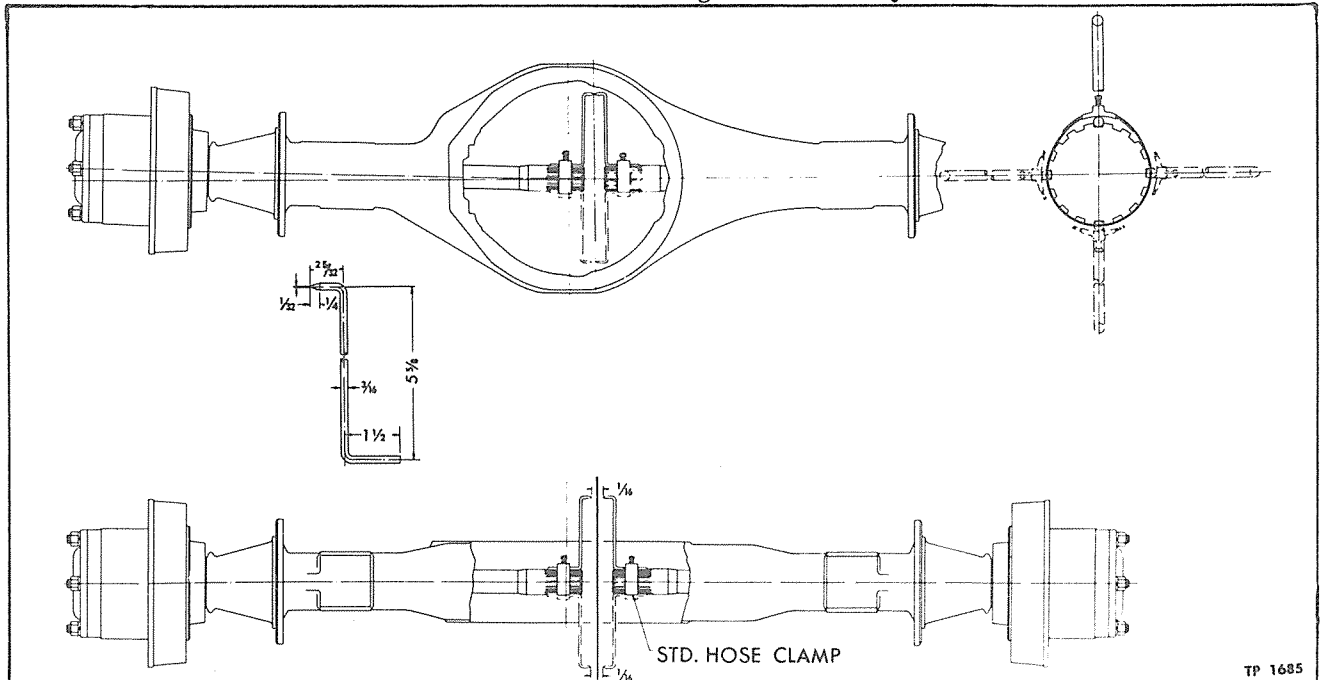

Figure 4—Housing Alignment Check
3. Indicators, as shown in figure 4, may be made locally from welding or drill rod (3/16" diameter) to dimensions shown. Make certain that burrs on axle shaft splines have been removed. Install indicators in place as shown in figure 4. Radiator hose clamps of suitable diameter may be used to secure indicators in position.
4. Each indicator must be positioned at right angle to its respective axle shaft after it is secured in place. Both indicators must be in alignment with each other. There should be a slight gap between the points as shown in figure 4. Insert a feeler gauge or measure gap between the indicator points, and make note of this dimension.
5. Place both indicators in alignment, then rotate both shafts simultaneously. Make a check of the gap dimensions between the indicators at four points 90 degrees apart, as shown in figure 4. If the gap at each point exceeds original predetermined gap by more than 1/16", axle housing is bent at various points and should be straightened or replaced.